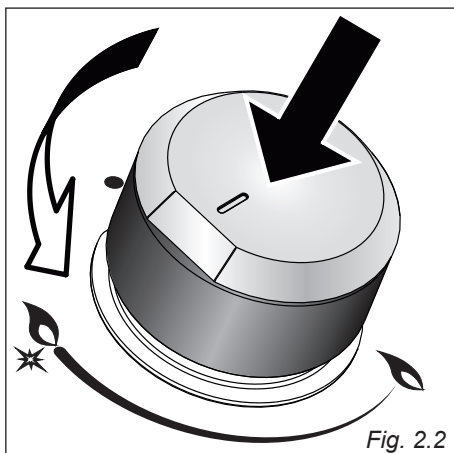

Fig. 2.2
1. Press in the corresponding knob and turn counter-clockwise (fig. 2.2) to the full flame position marked by the “